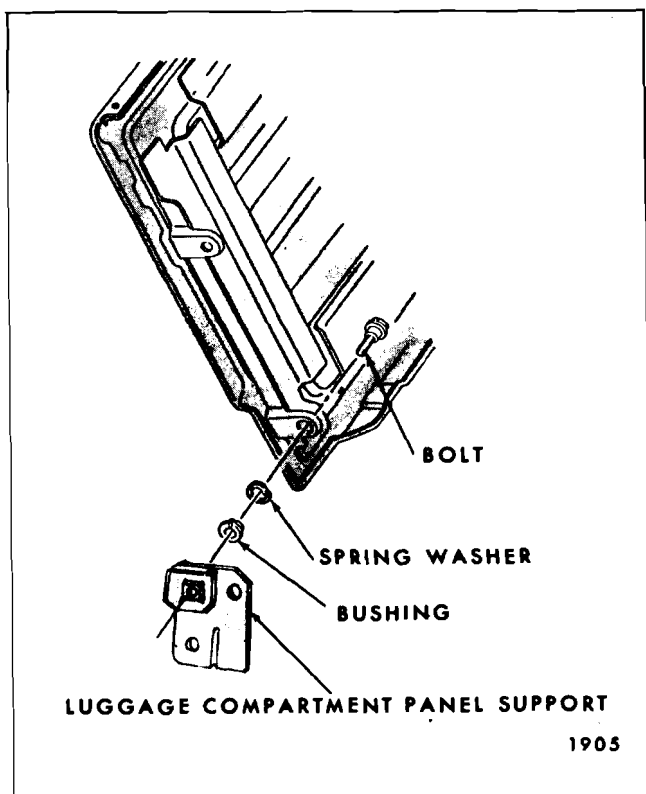

Fig. 15-71—Luggage Compartment Panel Attachment to Body
3. Remove bolt (Fig. 15-71) at both sides of front panel securing front and rear panel assemblies to supports; then remove assembly from body.
4. To install, reverse removal procedure. Make sure bushing and spring washer are properly installed (Fig. 15-71).